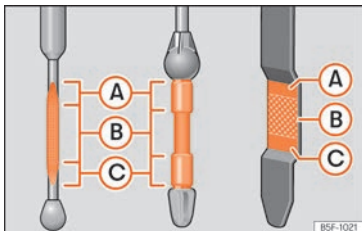

Fig. 199 Engine oil dipstick.
- Then pull it out once more and check the oil level »» **Fig. 199**. Top up with engine oil if necessary.
- When the oil level reaches at least zone »» **Fig. 199 B**, unscrew the engine oil filler cap carefully »» **ⓘ**.
If the oil level is above area »» Fig. 199 Ⓐ, do not start the engine. This could result in damage to the engine and catalytic converter. Contact a specialised workshop.
The oil level must never be above zone »» Fig. 199 Ⓐ. Otherwise oil can be drawn in through the crankcase breather and leak into the atmosphere via the exhaust system.